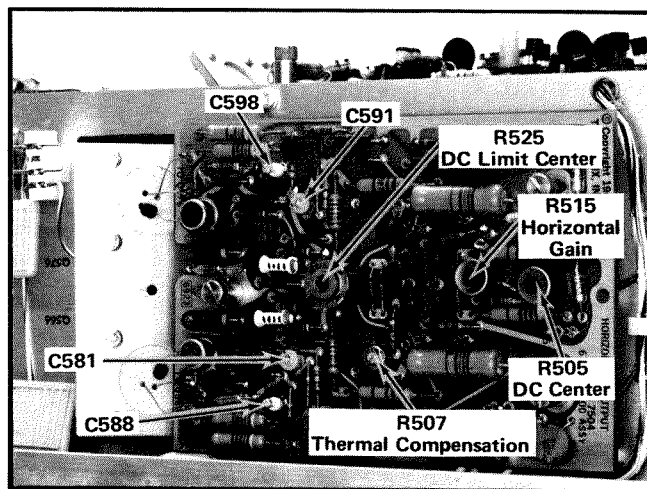

Fig. 5-8. Location of adjustments on the Horizontal board.
h. ADJUST—Horizontal gain control R515 (see Fig. 5-8) for exactly eight centimeters total spacing between the traces corresponding to the center eight divisions on the graticule. Use the B HORIZ Position control as necessary.
e. ADJUST—R507 (see Fig. 5-8) for minimum horizontal shift as each horizontal sweep occurs.
j. ADJUST—R507 (see Fig. 5-8) for minimum jitter of the markers being displayed on the A HORIZ sweep.
f. ADJUST—C581 and C591 (see Fig. 5-8) for one marker every two division (use low-capacitance screwdriver). Adjust these capacitors a little at a time, trying to maintain equal capacitances.
k. ADJUST—C598 and C588 (see Fig. 5-8) for one marker every two divisions while maintaining the best linearity. Position the display back and forth and check linearity over the entire sweep while making these adjustments.